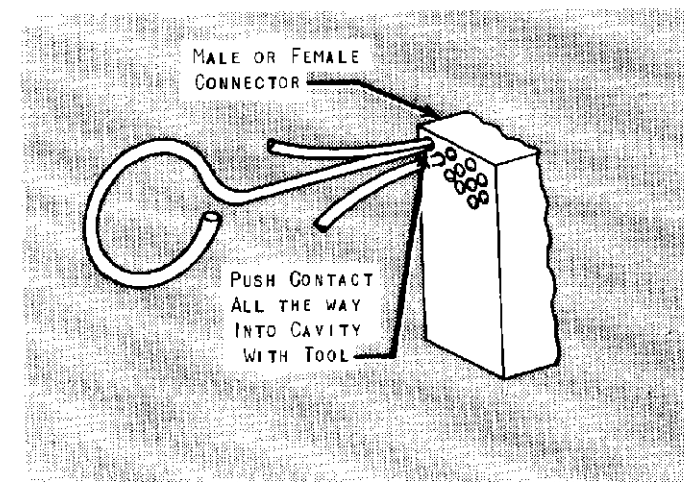

Fig. 4
- Hold wire in groove of Tool and push Contact all the way into Cavity in Connector. See Figure 4.